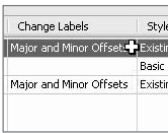

Figure 11.13
7. Use the Select Style Set pull-down list to choose the \_No Labels style set, as shown in Figure 11.13. Click OK to dismiss the dialog and return to the Create Section View dialog. When the section view is drawn, only the corridor surface will be labeled.